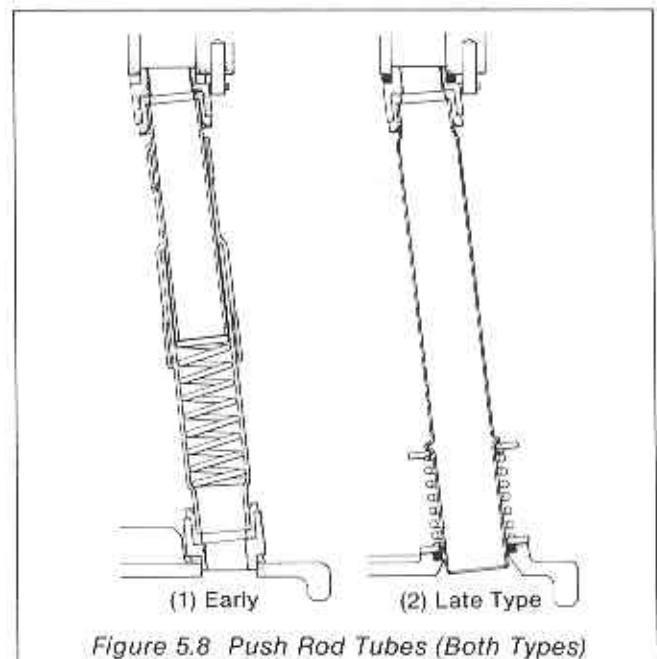

Figure 5.8 Push Rod Tubes (Both Types)
- (5) Assemble the push rod tube as shown in Figure 5.8 ensuring that the oil seals and washer/'O' rings are in good condition and seating correctly. Where push rod tube covers are fitted ensure that the ends are folded inwards to form a dust and oil tight seal. Ensure that the push rod tube adaptors are fitted in position as noted in Paragraph 5.3(8).
- (6) Lightly lubricate the push rods with engine oil and fit in the positions noted in Paragraph 5.3(6).
- (7) Fit the rocker support and secure using the two self-locking nuts.
- (8) Connect the rocker lubrication oil feed pipe.
- (9) Fit the fuel injector (Section 3).
- (10) Fit the inlet and exhaust manifolds.